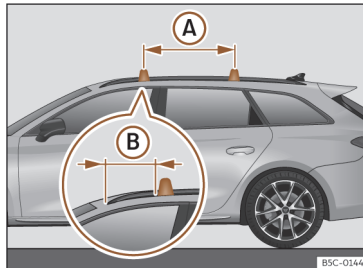

Fig. 200 Mounting points for the roof bars for the roof rack (Leon Sportstourer).
Valid for the Leon Sportstourer: The crossbars are assembled on the roof railings >>> **Fig. 200**. The distance between cross bars (A) should be approx. 75 cm and the distance between the front bars and the front bracket of the side roof bar (B) should be 30 cm.